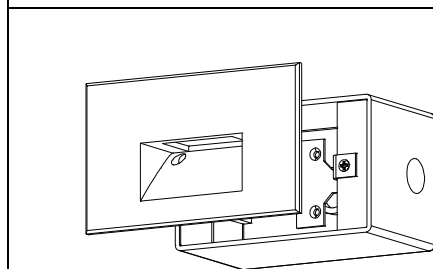

FIG.3
4. Connect the fixture wires to the junction box wires as follows: Black fixture wire to black (Hot) J-BOX wire, white fixture wire to white (Neutral) J-box wire, and green fixture wire to Ground. (See Fig.3)